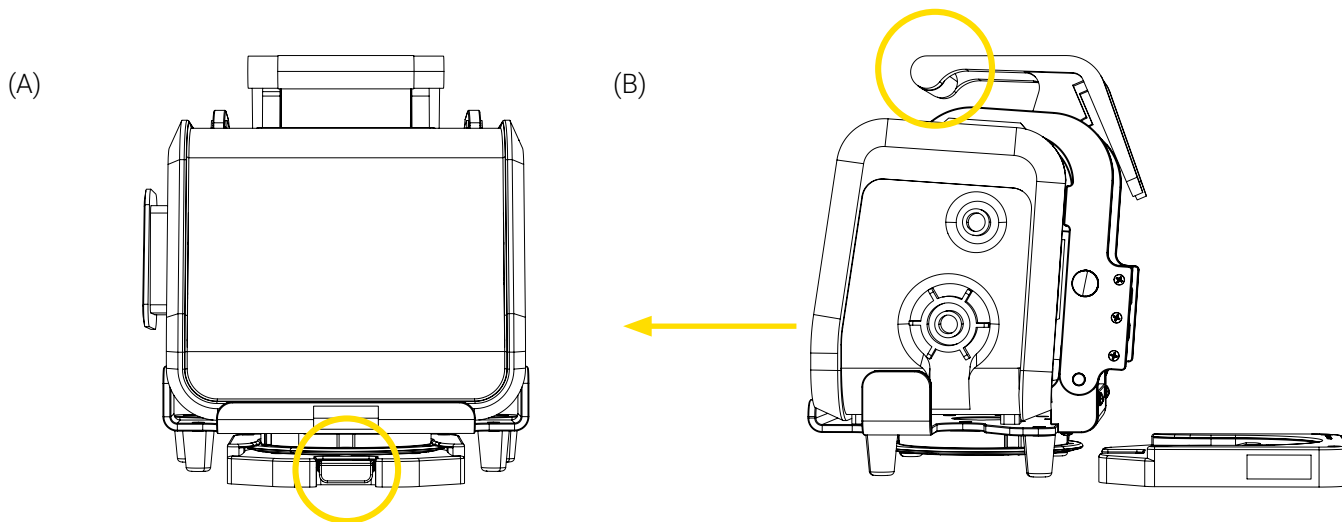

Figure 11: Removing the medical device from the Standard Surface Base
2. Press and hold the quick release button of the Standard Surface Base, then pull the medical device horizontally out of the base using the handle (Figure 11). Set the medical device.